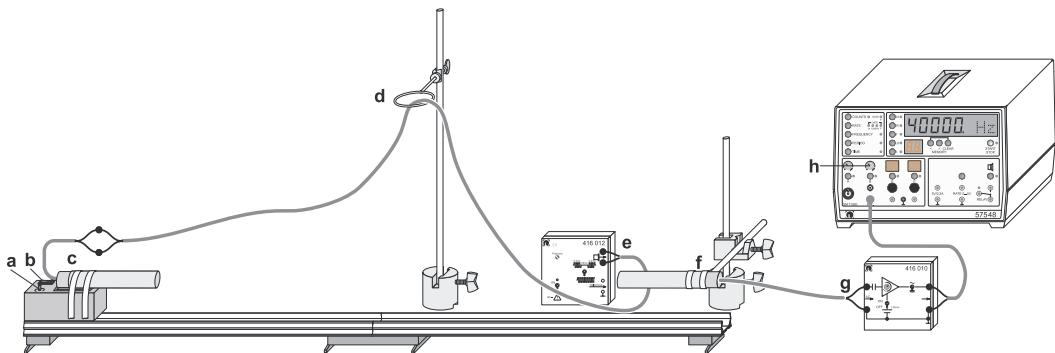

Figure 1.5: Experimental setup for investigating the Doppler effect in a moving sound source
- Switch on the digital counter, feed in the output of the AC amplifier via the BNC measuring cable in the input feed B (see Fig. 1.5) and press the B button.